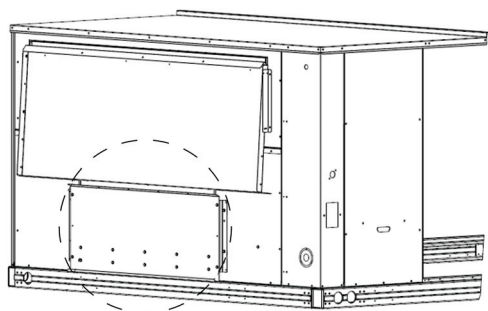

Fig. 16 — Shipping Location, Vertical Units
1. Remove the hood top panel from its shipping position on the unit end. (See Fig. 16.)